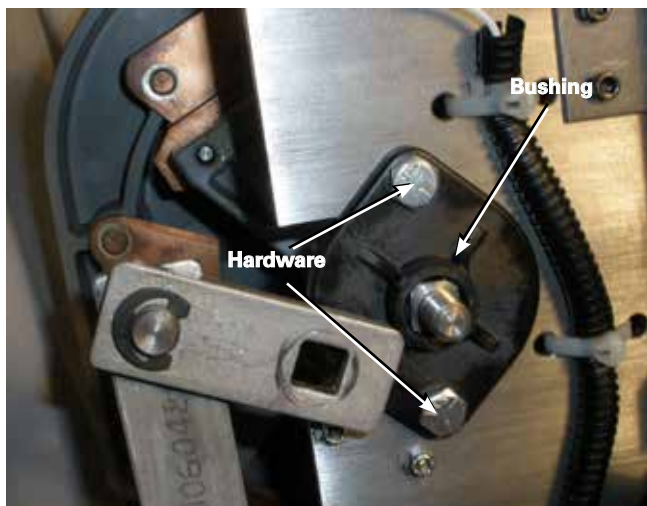

Figure 19. Reinstalling bushing.
- If none is present on the threads, apply Loctite® 243™ threadlocker to the two 1/4-28 bolts. Using the bolts and a 7/16" wrench, fasten the reversing movable bushing to the front of the tap-changer. Tighten the bolts to a torque of 30–40 in-lbs (3.4–4.5 Nm). See Figure 19.